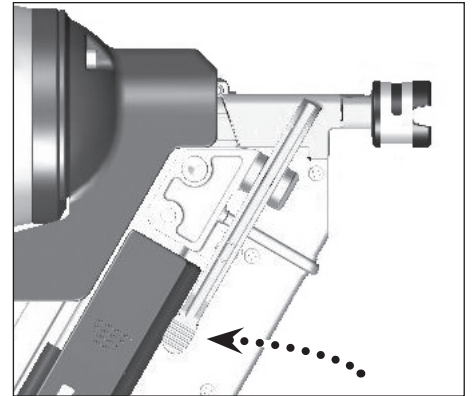

Figure 23 - Quick Clear Nose Lever
3. Press down on the Quick-Clear Nose (QCN) lever to disengage portion of nose barrel (See *Figure 23*).